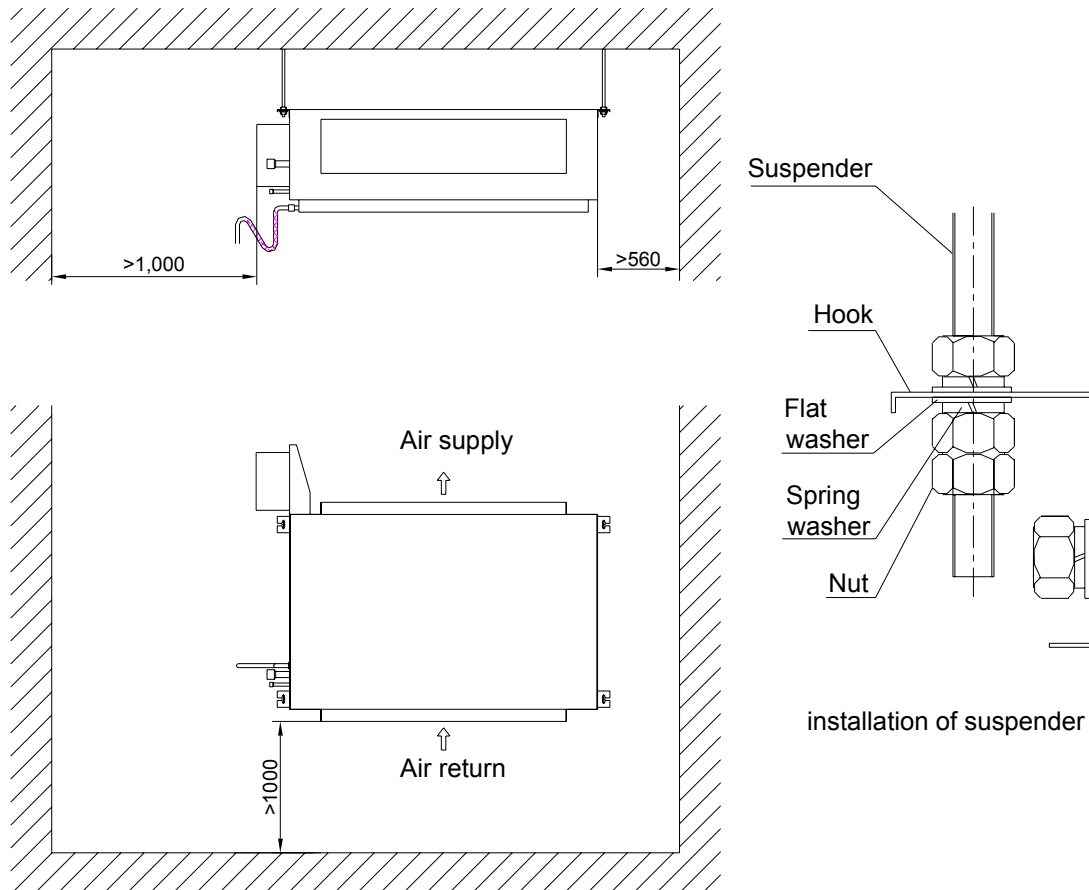

Fig.20 Schematic for the indoor unit
2).Main body of the indoor unit The indoor unit should be installed horizontally and the demand of installation space is shown in Fig. 20. To install an indoor unit needs 4 hanging rods, and each hanging rod should at least withstand four times of the unit's weight.